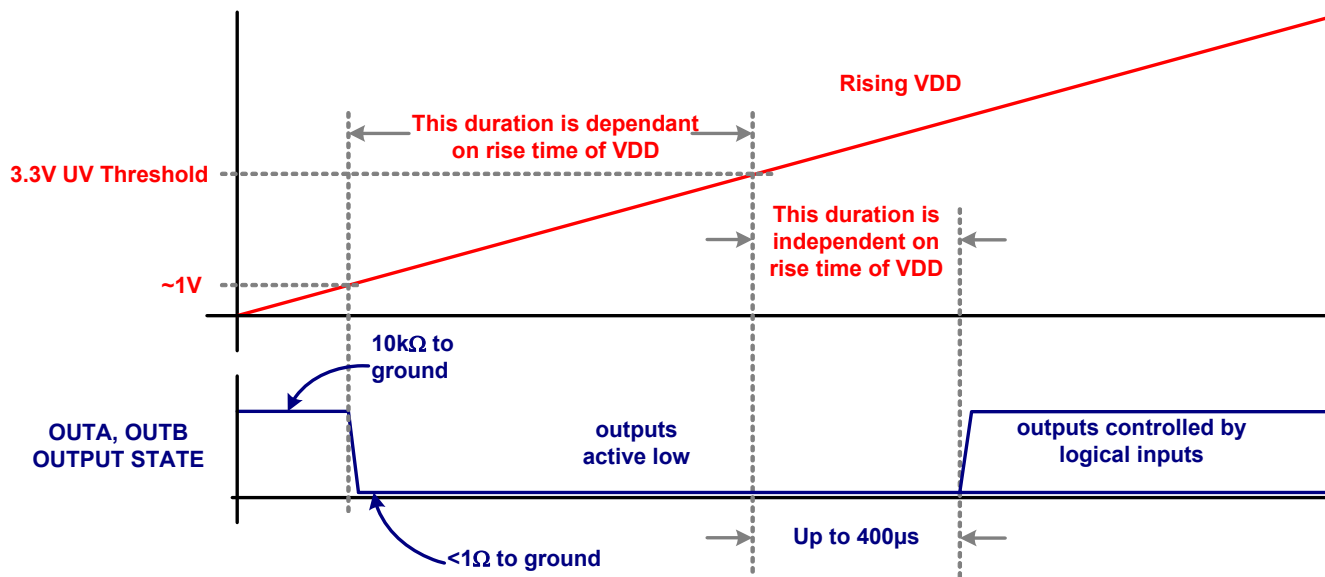

FIGURE 9. START-UP SEQUENCE
- A 400 μs delay further inhibits the release of the output state when the UV positive going threshold is crossed. See Figure 9.
The start-up sequence for is designed to prevent unexpected glitches when V_{DD} is being turned on or turned off. When $V_{DD} < \sim 1V$, an internal 10k Ω resistor connected between the output and ground, help to keep the gate voltage close to ground. When $\sim 1V < V_{DD} < UV$, both outputs are driven low while ignoring the logic inputs. This low state has the same current sinking capacity as during normal operation. This insures that the driven FETs are held off even if there is a switching voltage on the drains that can inject charge into the gates via the Miller capacitance. When $V_{DD} > UVLO$, and after a 400 μs delay, the outputs now respond to the logic inputs. See Figure 9 for complete details.